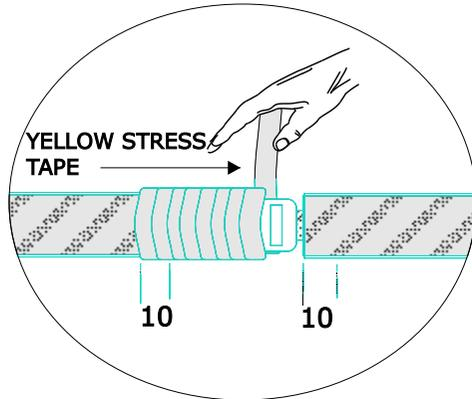

Fig 5
7. Stretch the yellow stress tape (TS 31785Y) and apply with half width overlap to the connector and extend onto the insulation either side by 10mm as shown in Fig 5.